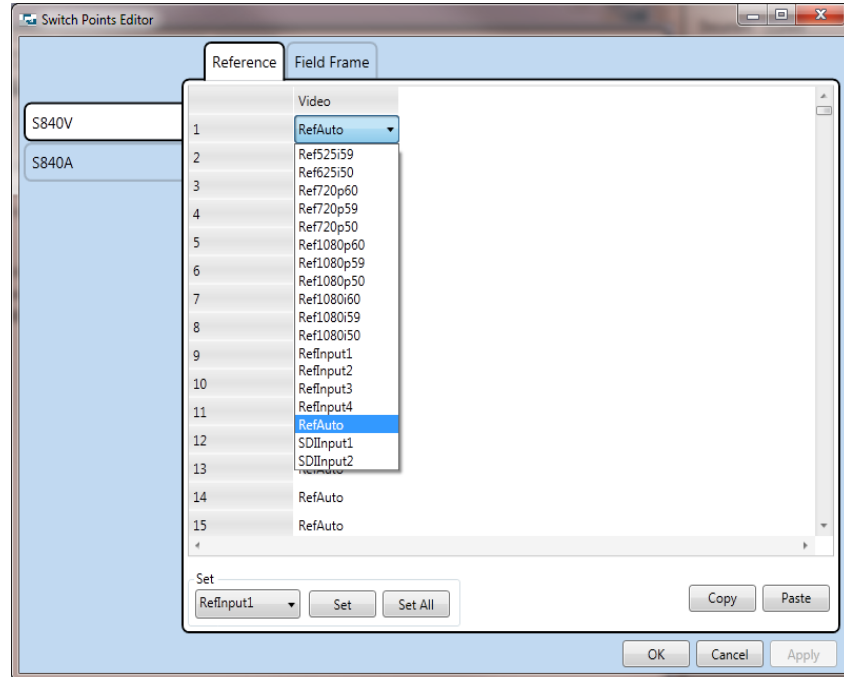

Fig 51. Switch Point Editor (Nucleus2 2464 Shown)
1. Select the video input to be set by clicking on it. Once selected open the drop down list as shown in Fig 51.